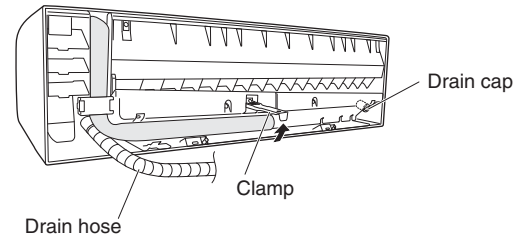

Fig. 1-82
- (a) Locate the drain hose and the drain cap. (Fig. 1-82)
- (b) Remove the screw fastening the drain hose on the right side, and pull out the drain hose to remove it. (Fig. 1-82)